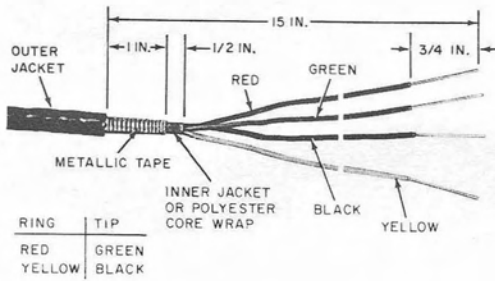

Fig. 38—Prepared Service Wire—UP-200 Cable Closure
6.14 Prepare the service wire as shown in Fig. 38.